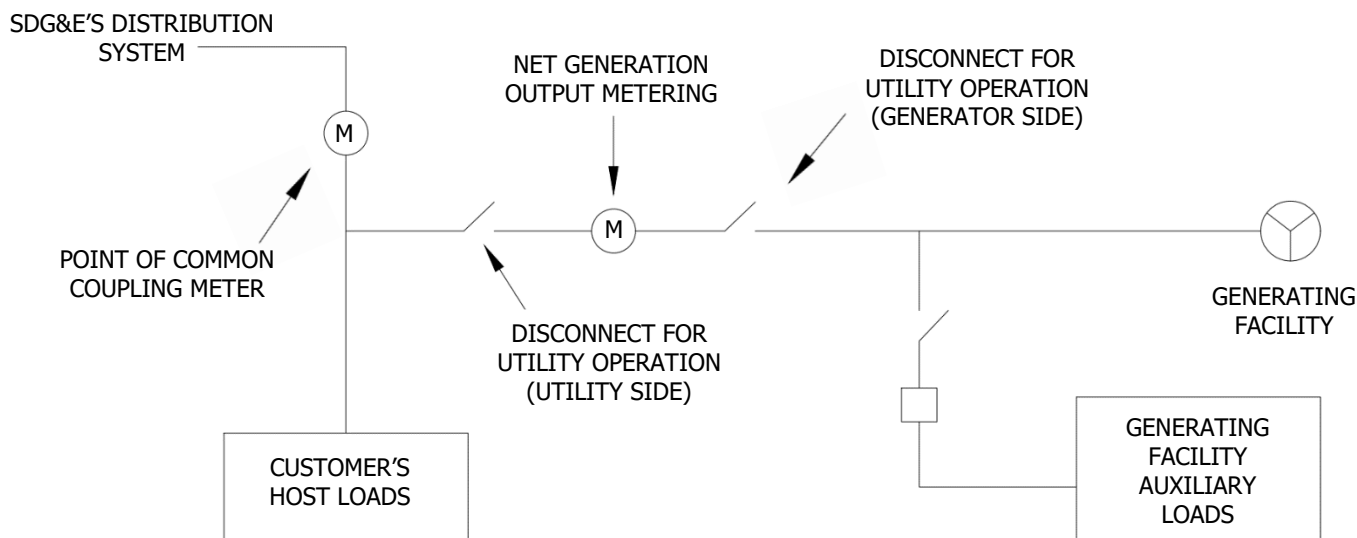

FIGURE 1
A NGOM IS ALWAYS INSTALLED IN THE ELECTRICAL CIRCUITRY USED TO INTERCONNECT A CUSTOMER'S GENERATING FACILITY WITH HOST LOAD. MORE SPECIFICALLY, IT IS LOCATED IN THE CIRCUITRY AT A LOCATION AFTER ANY CONNECTIONS USED TO SERVE THE "AUXILIARY LOADS" USED TO OPERATE THE GENERATING FACILITY, BUT BEFORE ANY CONNECTION TO THE HOST LOAD. SEE FIGURES 1 AND 2 BELOW:
NOTES TO FIGURES 1 AND 2:
- ① FOR METERING PURPOSES, THE GENERATOR CONDUCTORS SHALL BE CONNECTED TO THE LINE SIDE OF THE NGOM SOCKET.
- ② FOR BUS TAPS, SEE PAGE SG 517.1.
- ③ NGOM PANELS AND DEVICES ARE NORMALLY REQUIRED TO BE GROUPED WITH THE BILLING METER AT THE PCC (ALSO REFERRED TO AS THE SERVICE AND METERING EQUIPMENT).
- ④ VISIBLE, OPEN, AND LOCKABLE DISCONNECTS ARE REQUIRED ON EACH SIDE OF THE NGOM EXCEPT AS NOTED IN FIGURES 1 AND 2. SEE PAGES SG 511.1 – 511.3 FOR DISCONNECT REQUIREMENTS.
- ⑤ A SITE PLACARD IS REQUIRED AT THE SERVICE AND METERING EQUIPMENT. SEE PAGE SG 017.1 FOR SITE PLACARD REQUIREMENTS. IF NGOM IS NOT LOCATED IN LINE OF SITE OF THE SERVICE AND METERING EQUIPMENT, AN ADDITIONAL SITE PLACARD IS REQUIRED ON THE NGOM DENOTING THE LOCATION OF THE SERVICE AND METERING EQUIPMENT
- ⑥ AN ADDRESS PLACARD IS REQUIRED ON THE FRONT OF THE NGOM PANEL.
- ⑦ A PLACARD SHALL BE INSTALLED ON THE UTILITY SIDE DISCONNECT LABELED: "PV (OR WT) SYSTEM DISCONNECT FOR UTILITY OPERATION – UTILITY SIDE."
- ⑧ A PLACARD SHALL BE INSTALLED ON THE GENERATOR SIDE DISCONNECT LABELED: "PV (OR WT) SYSTEM DISCONNECT FOR UTILITY OPERATION – GENERATOR SIDE."
- ⑨ CONDUCTORS TERMINATING IN THE NGOM PANEL SHALL BE LABELED "UTILITY" AND "GENERATOR".
- ⑩ FOR INSTRUMENT TRANSFORMER RATED CT NGOM PANELS, A "CURRENT FLOW" PLACARD WITH AN ARROW POINTING TOWARDS THE UTILITY SIDE DISCONNECT SHALL BE INSTALLED ON THE INSIDE SIDE WALL OF PANEL OR ON THE OUTSIDE FRONT OF NGOM PANEL.
- ⑪ IN NO CASE SHALL ANY OF THE HOST LOAD BE CONNECTED TO THE GENERATOR SIDE OF A NGOM PANEL.